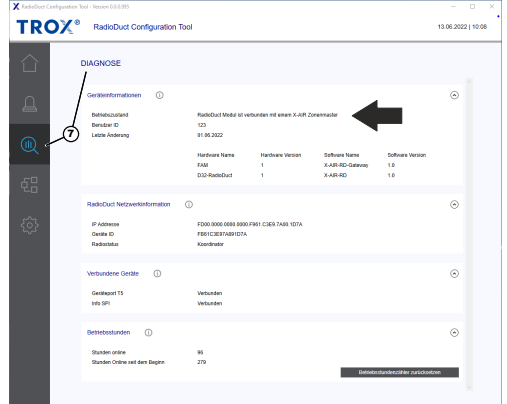

Fig. 22: RadioDuct diagnosis
7. ▶ Checking the connection to the master: The radio status is shown on the 'Diagnosis' page and on the module, Fig. 22.